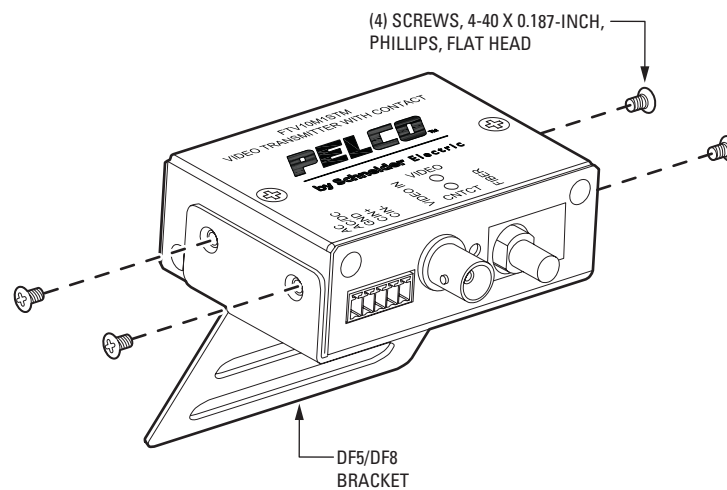

Figure 15. Attaching DF5/DF8 Bracket (Pelco FKIT-DF5DF8) to FTV10M Transmitter
2. Using the four 4-40 x 0.187-inch Phillips flat head screws and DF5/DF8 bracket supplied in the DF5/DF8 accessory kit (Pelco FKIT-DF5DF8), attach the bracket to the transmitter (refer to Figure 15).